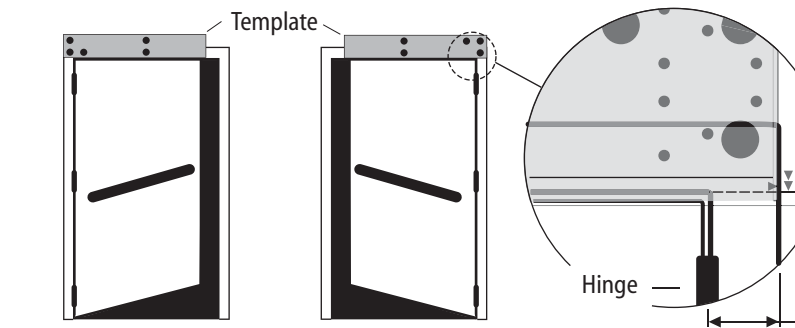

Figure 1 — Template orientation and alignment, bottom-side mounting shown
- 1 Determine whether to mount the base on the inside or outside. Also determine the hand of door. Make sure to place the hinge side of the template to the hinge side of the door. See Figure 1.
- 5 Position and place the template to the frame by aligning the horizontal and vertical lines to the door frame as shown in Figure 1. Reposition the template if necessary. Make sure that the template lays flat across the frame.